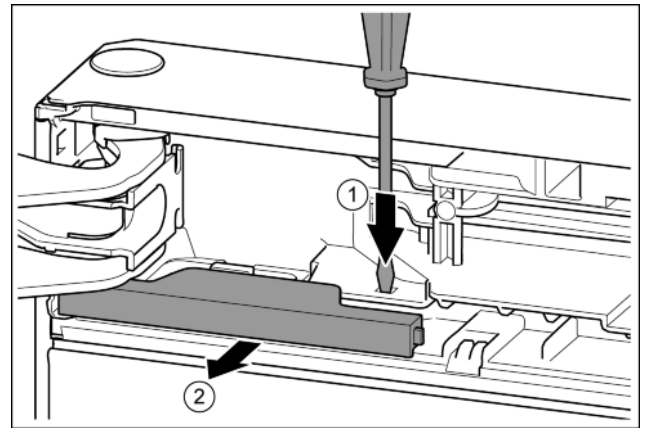

Fig. 10
- ▶ Press the tab with the slotted screwdriver. Fig. 10 (1)
- ▶ Pull cover out of the catch mechanism. Fig. 10 (2)